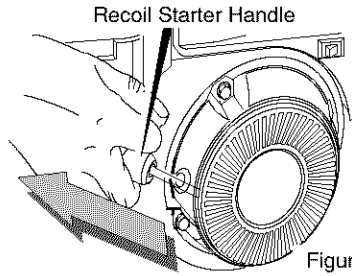

Figure 25
6. (**RECOIL START**) Pull the **starter handle** rapidly (see Figure 25). Do not allow the handle to snap back, but allow it to rewind slowly while